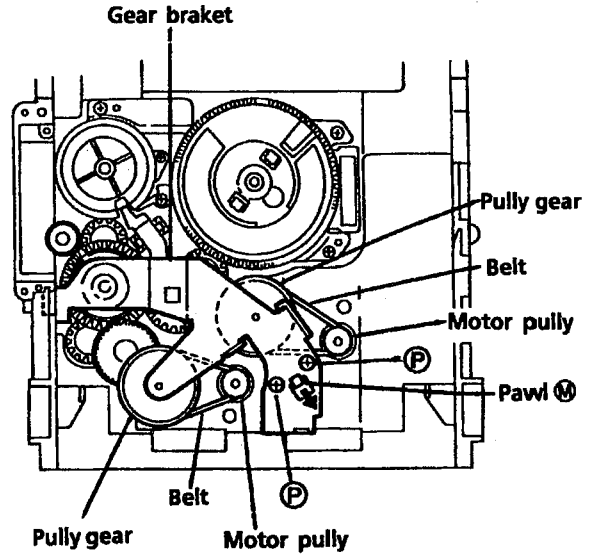

Fig. 37
(See Fig. 37.)
2. Press the pawl ② securing the gear bracket to the arrow in the figure to remove the gear bracket. (See Fig. 37.)
4. Remove each belts from the both actuator motor pulleys and the pulley gears. (See Fig.37.)